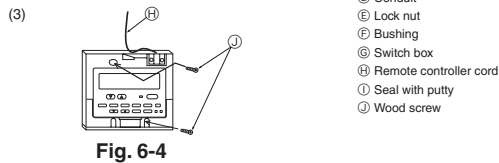

Fig. 6-4
(3) For direct installation on the wall (Fig.6-4)